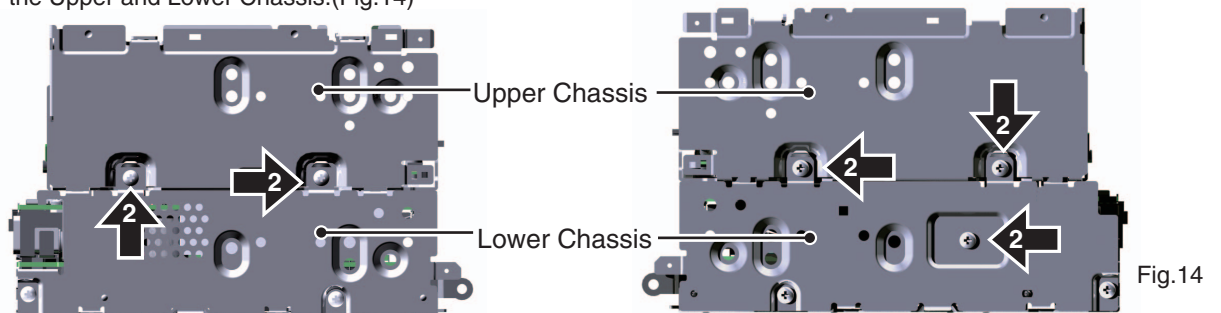

Fig.14
- ➔ 2 Remove the five screws and then remove the Upper and Lower Chassis.(Fig.14)